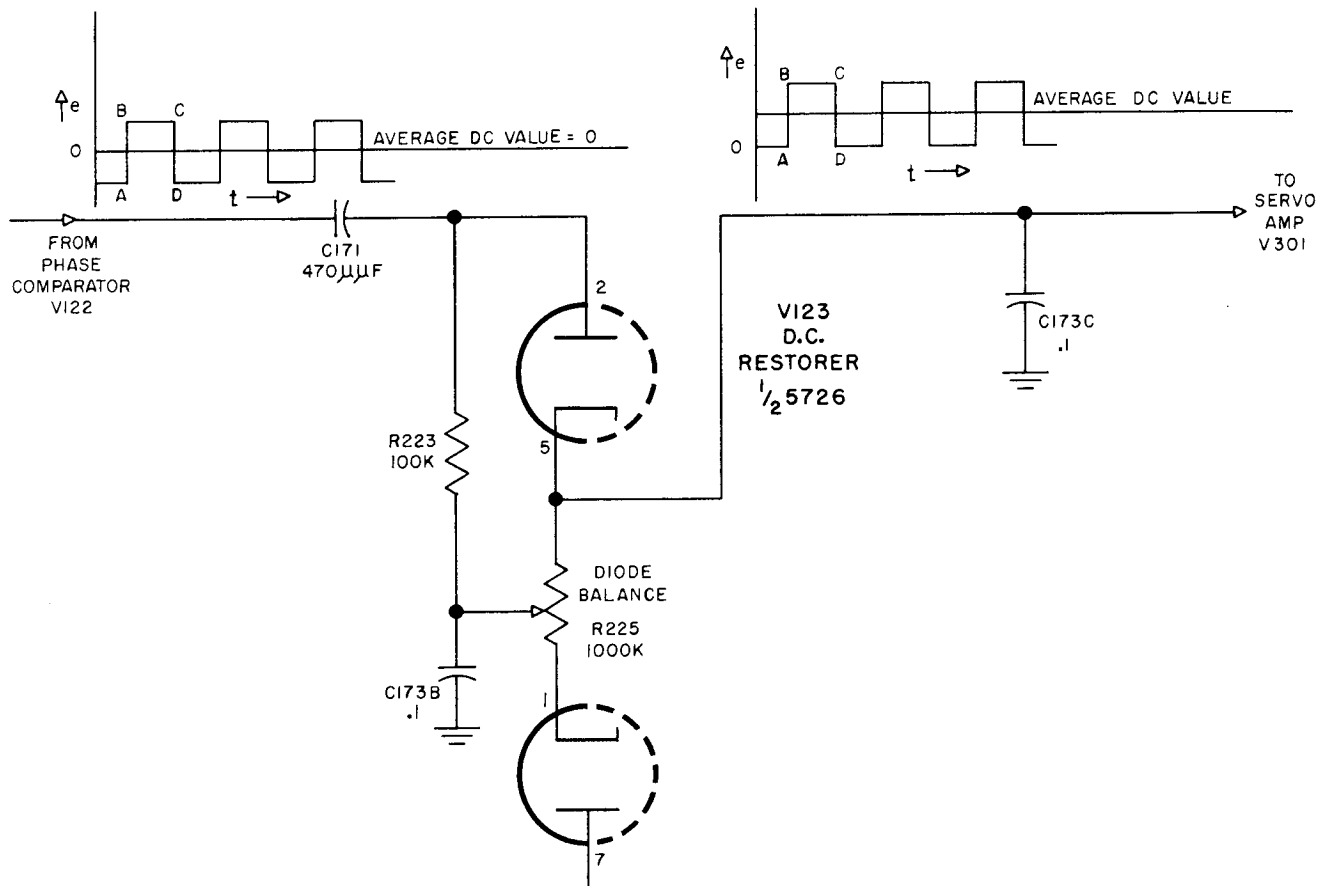

Figure 2-12. DC Restorer V123, Simplified Schematic Diagram
(4) DC RESTORER V123. (See Figure 2-12.)—The output of phase comparator V122 is applied to DC restorer V123, a 5726 twin-diode. The function of the DC restorer is to establish the DC value of the output